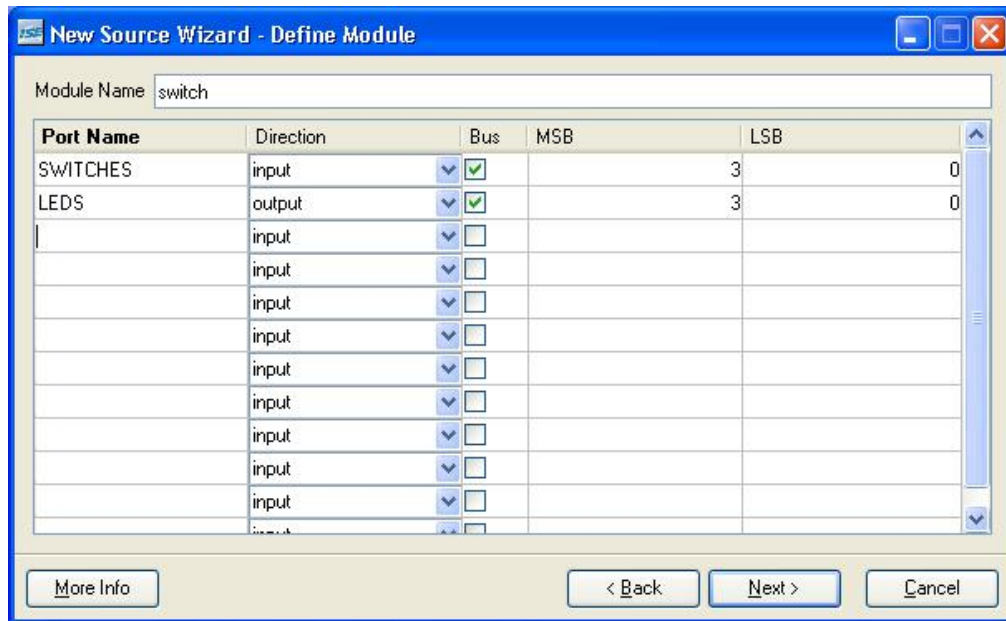

Figure 4. New Source Wizard
Now, the 'New Source Wizard – Define Module' window will open, as shown in Figure 4. Add LEDS and SWITCHES as ports for the source file.
7. Click on the switch.v file in the Sources window, the Processes Window appears as shown in Figure 4. The Process Window lists a sequence of steps that we need